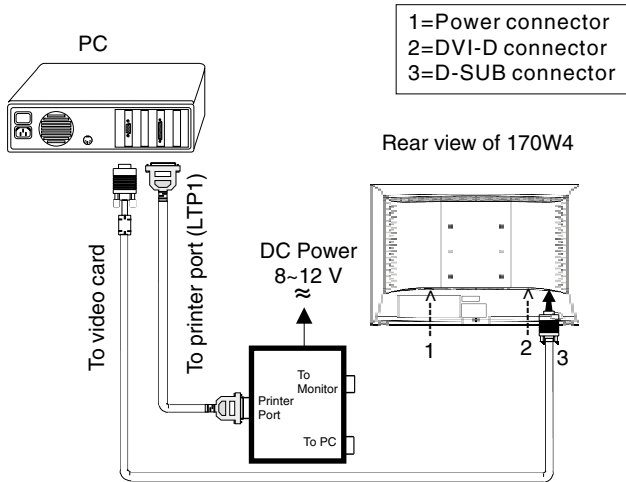

Fig. 6
- Step 2: Connecting printer cable and video cable of monitor as Fig. 6